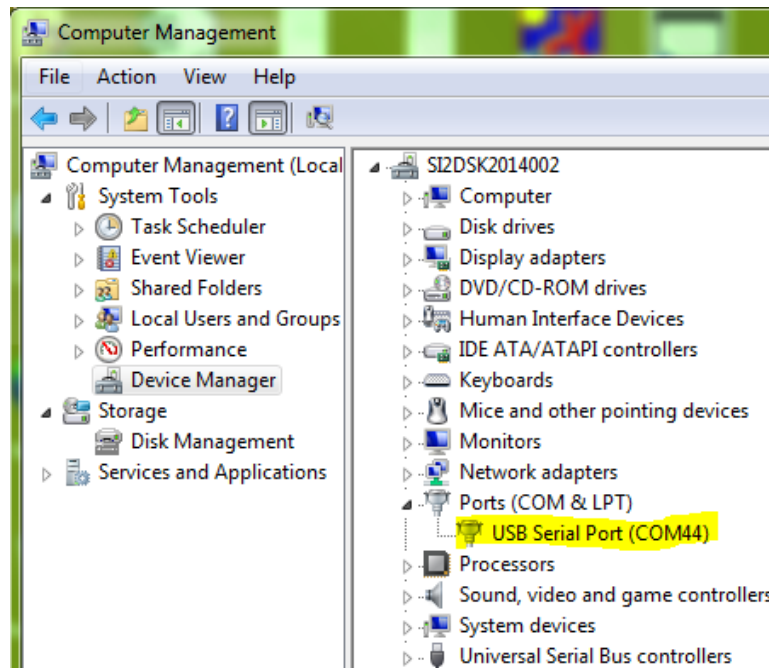

Figure 4: Device Manager Window
4. In “Device Manager” window, expand Ports list. You will find COM Port Number assigned to USB Adapter. [Figure 4]